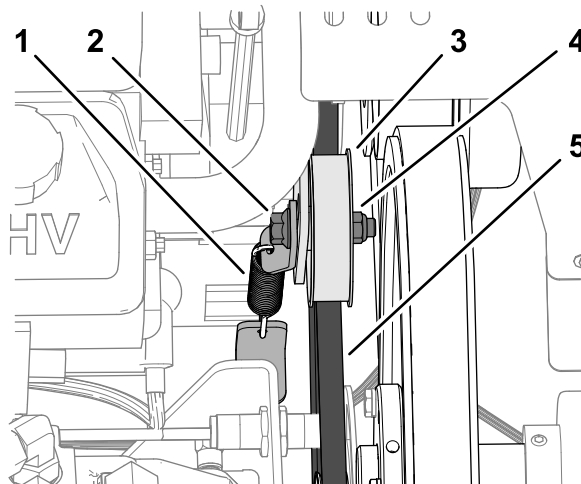

Figure 165
3. Loosen the flange-head capscrew and flange locknut that secure the idler pulley for the hydraulic-pump belt, until the bolt moves in the slot of the idler support (Figure 165).